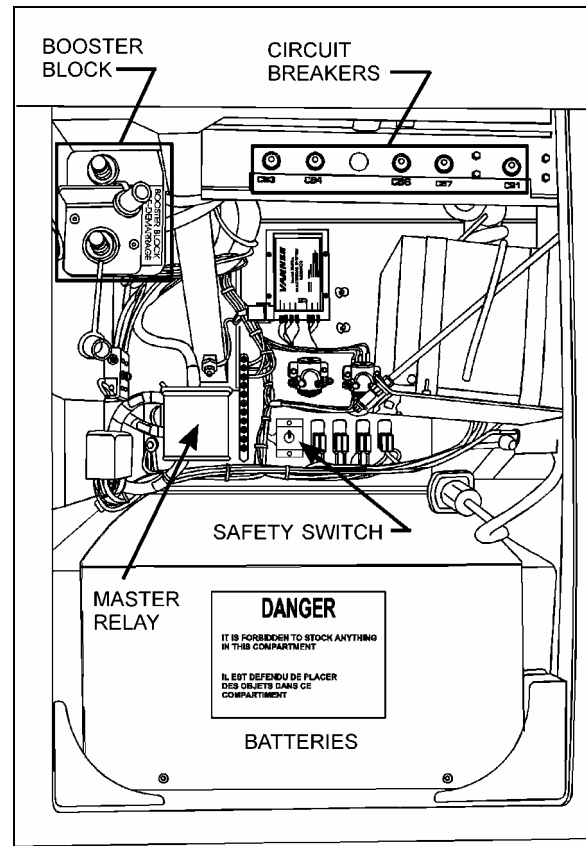

FIGURE 4: MAIN POWER COMPARTMENT (XL2-45) 06316
On XL2-45 coaches, booster block is located in the main power compartment (Fig. 4).
Most of the manually-resettable circuit breakers are located in the: A/C junction box, rear junction box, front service compartment, and in the main power compartment. An identification decal is affixed on the inside face of each door. XL2-45 coaches are equipped with eight (8) main breakers; they are installed in the main power compartment and in the A/C junction box in the evaporator compartment, they can be identified as follows (Fig. 4, 5, 6 and 7):
On XL2-45 coach the battery equalizers are located in the main power compartment (Fig. 4).